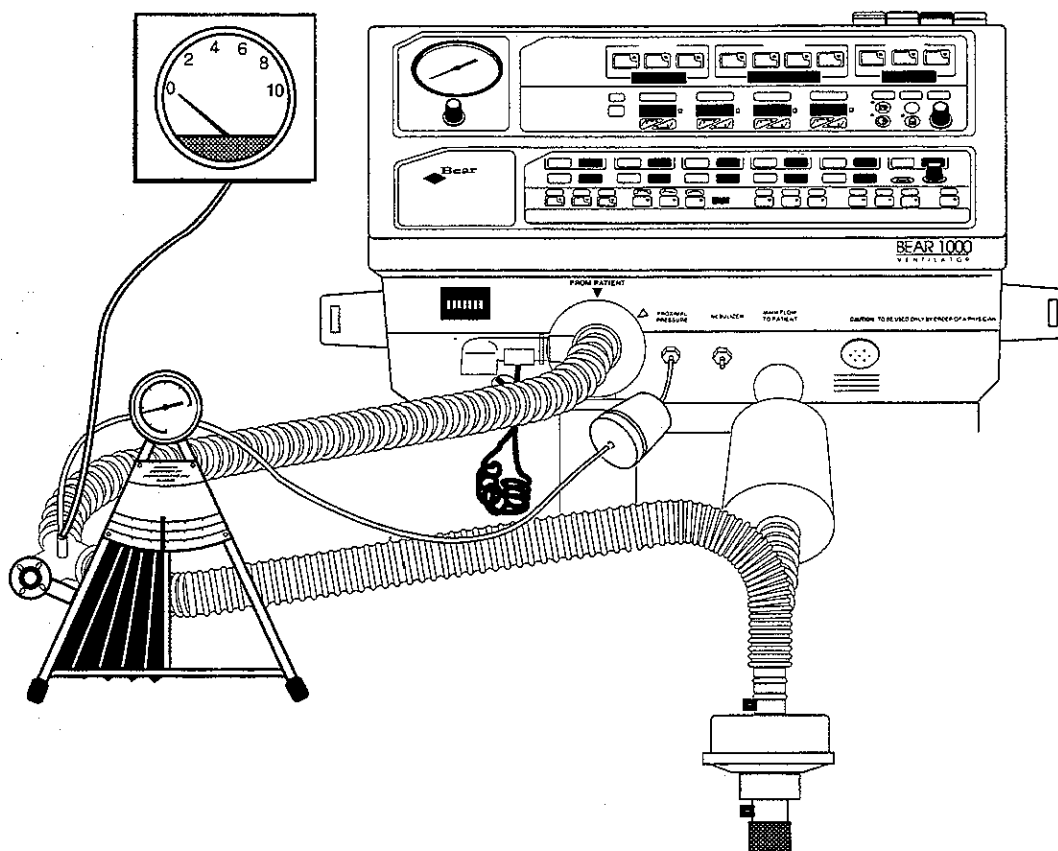

Figure 3-7
2. Connect the ventilator as shown in Figure 3-7, with the gauge configured to measure negative pressure.